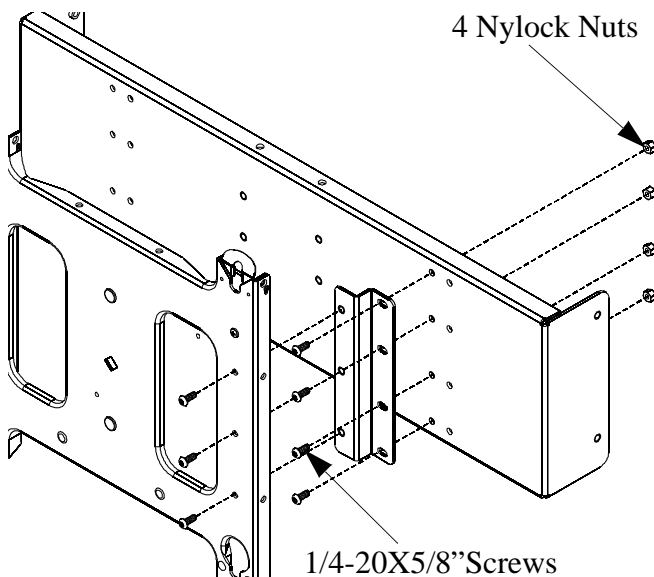

Figure 5. Face Plate and Mounting Head
3. Using eight 1/4-20X5/8" screws (90) and 1/4-20 Nylock nuts (70), secure each side bracket (82) to the mounting head (40) (see Figure 5).
4. Using six 1/4-20X5/8" screws (90) secure the face plate (50) to the side brackets (82) (see Figure 5).